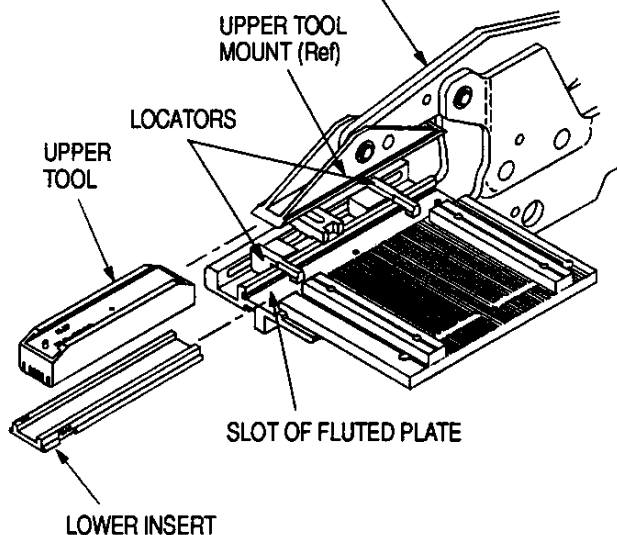

Figure 3
**4. CONNECTOR-SPECIFIC KIT INSTALLATION (Figures 3 and 4)**